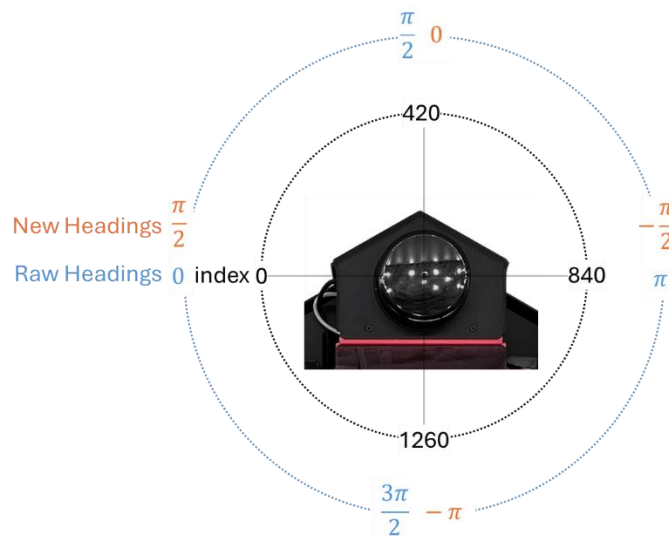

Figure 2. LiDAR measurement correction
3. Notice in **adjust_and_subsample()** under **QBPRanging()**, heading angles from the LiDAR sensor are multiplied by -1 and added to $\pi/2$. This is to correct the headings such that the angle value of 0 corresponds to the front of the QBot, as shown in Figure 2. In addition, the angles are now increasing counterclockwise, consistent with the positive convention of our reference frame. Furthermore, this function downsamples the distance and angle data, which is beneficial in the obstacle detection application as it allows for faster computation when high resolution is not necessary.